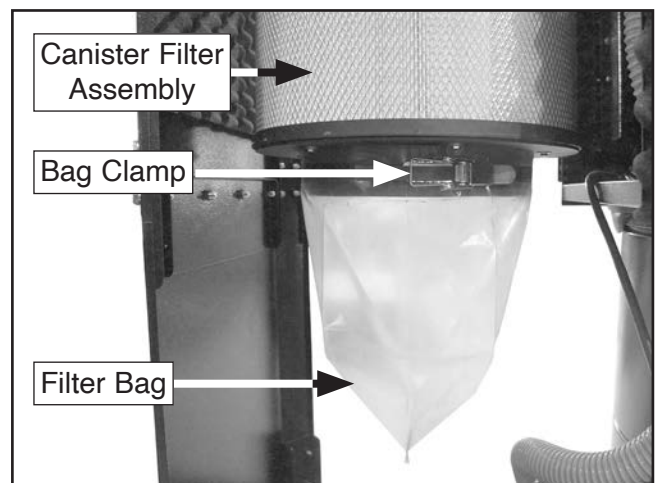

Figure 35. Filter bag attached to canister filter.
23. Place filter bag around bottom of canister filter assembly and secure with bag clamp (see **Figure 35**).